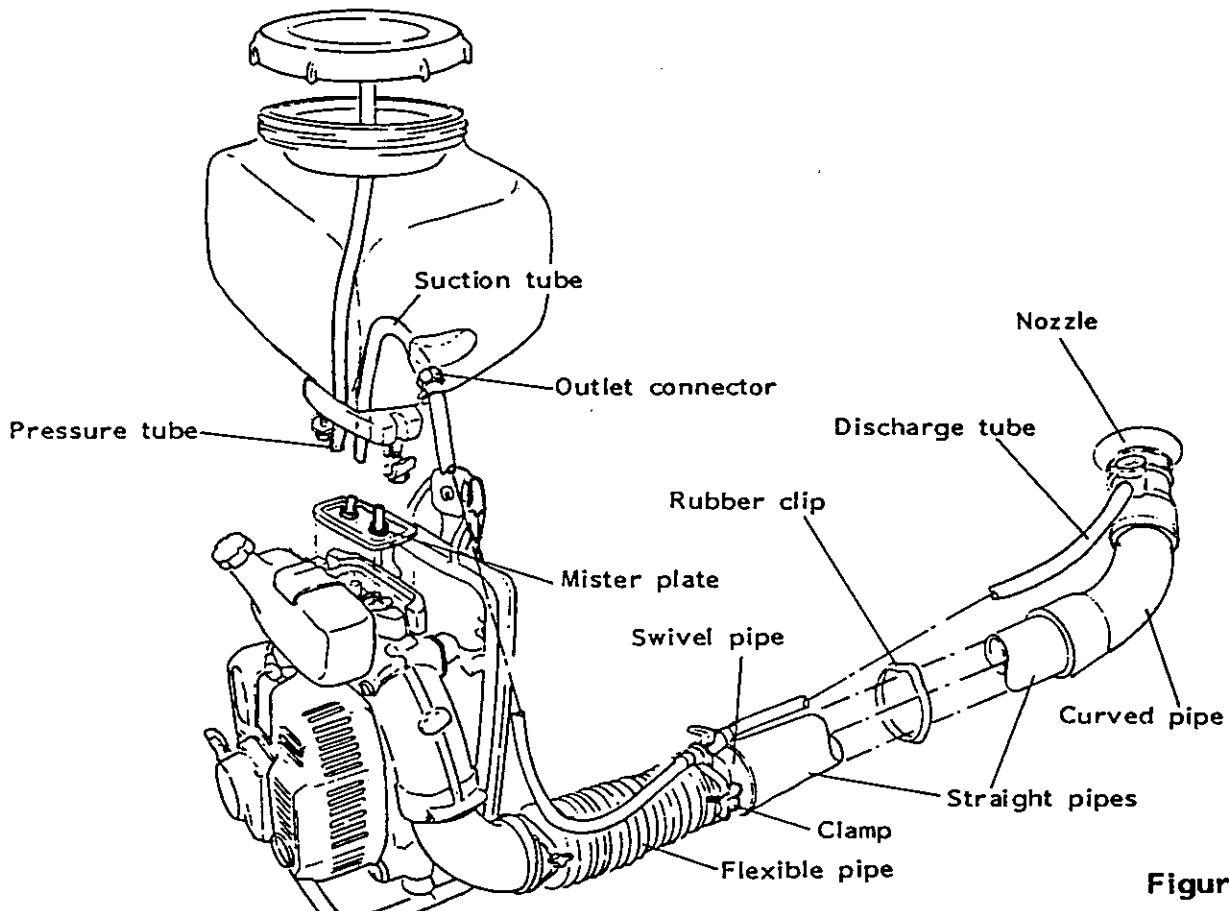

Figure 11
4. Connect suction tube to outlet connector on tank as shown in figure 11.